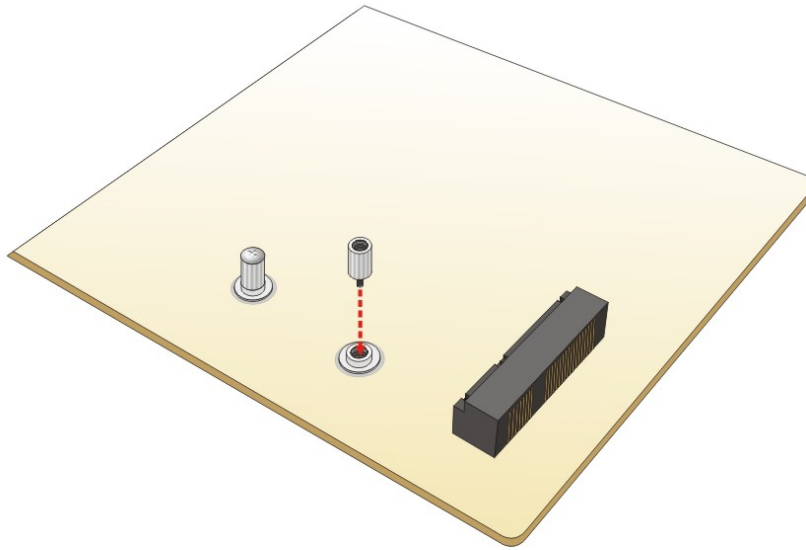

Figure 4-5: Installing the Standoff
Step 2: **Install the standoff to the screw hole for the half-size PCIe Mini card.** Install the supplied standoff to the screw hole for the half-size PCIe Mini card (**Figure 4-5**).